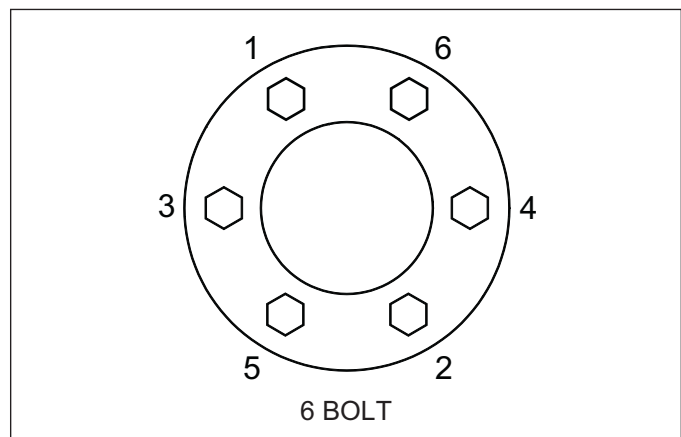

Figure 2-1: Tightening Sequence
- Install a Tire and Wheel Assembly onto each Transport Axle Hub, with 1/2-20 x 1 Wheel Bolts and tighten to 50 Ft-Lbs using the sequence in **Figure 2-1**. Then tighten to full torque to 85-90 Ft-Lbs.